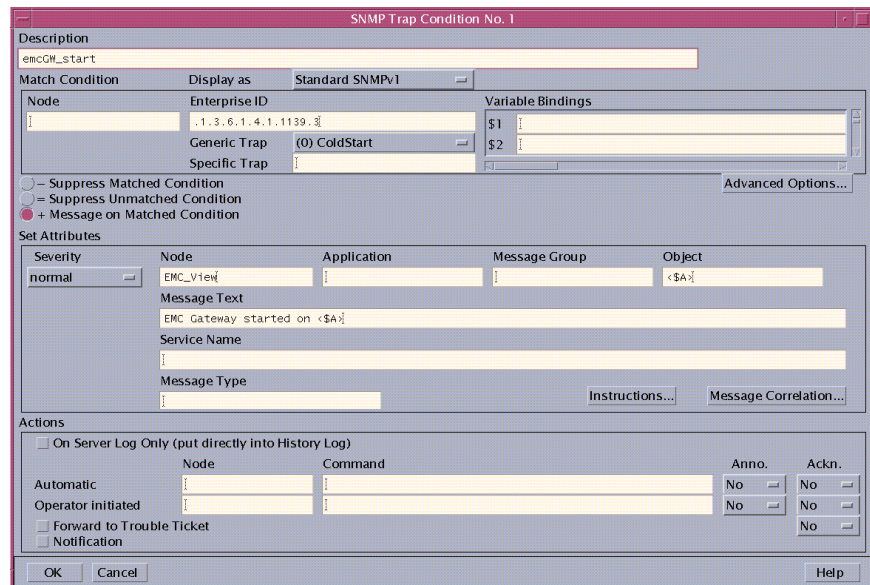

Figure 5-10 SNMP Trap Condition
2. Select one of the four EMC event types, and then click **Modify**. The SNMP Trap Condition window appears (Figure 5-10).